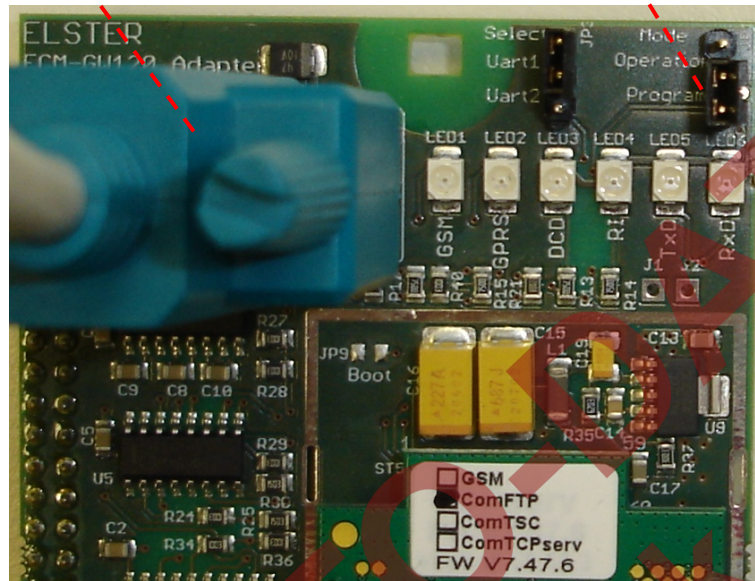

Fig. 13: Modem assembly with **ECM-GW120**
- For serial data transmission, insert the cable connection into the parameterizing interface of the modem board (⇒ Fig. 13) and the COM or USB port of the PC or laptop.